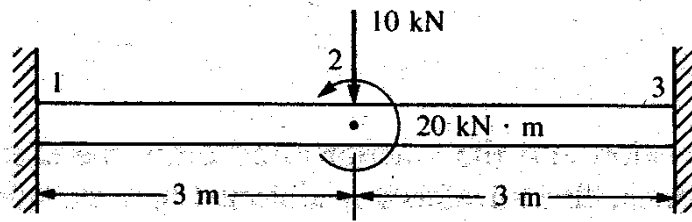

Figure 4b
b) For the beam shown in Figure 4b, determine the displacements and the slope at node 2. Also find the reaction forces and moments at nodes 1 and 3. Consider $E = 210 \text{ GPa}$, and $I = 4 \times 10^{-4} \text{ m}^4$ [8]